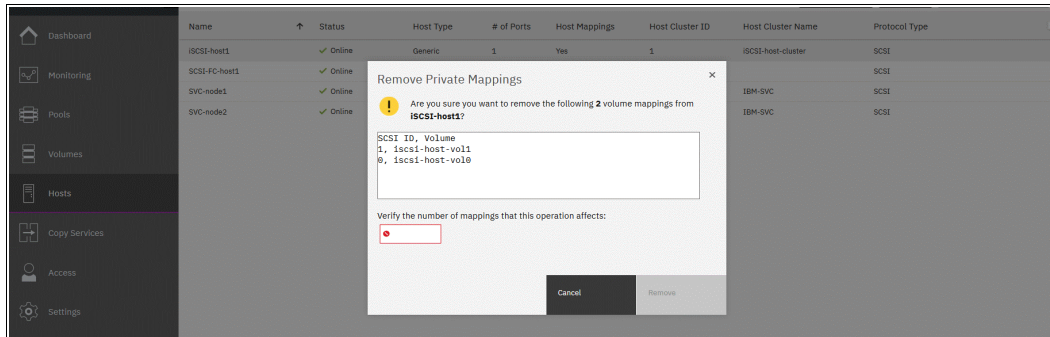

Figure 7-47 Confirming the number of mappings to be removed
- In the next window, to confirm your action, enter the number of volume mappings to be removed, as shown in Figure 7-47, and click **Remove**.